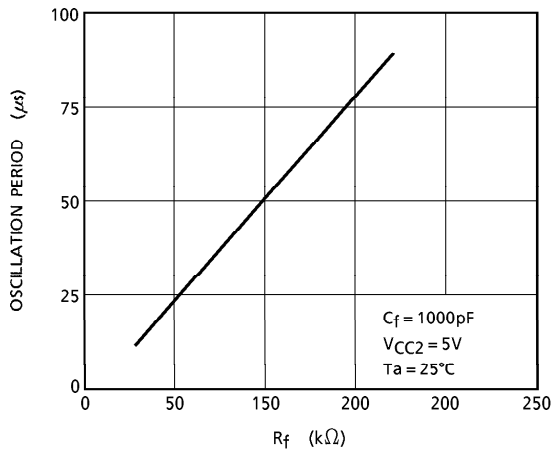
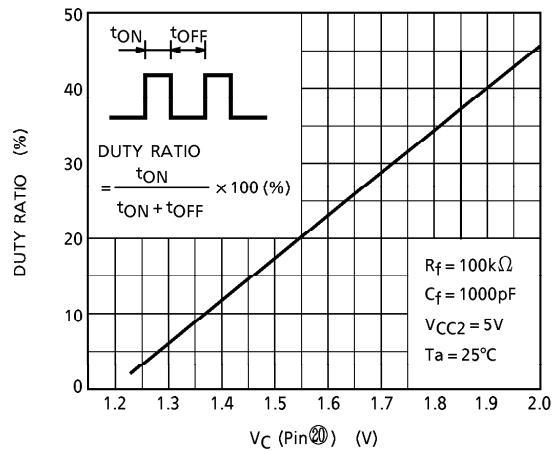

Fig.3 Rf – Oscillation period characteristic
Fig.4 DUTY RATIO – VC characteristics
Further, Rf and Triangular waveform oscillation period characteristic is shown in Fig.3 and PWM output waveform duty ratio vs. pin⑳ voltage characteristic in Fig.4.